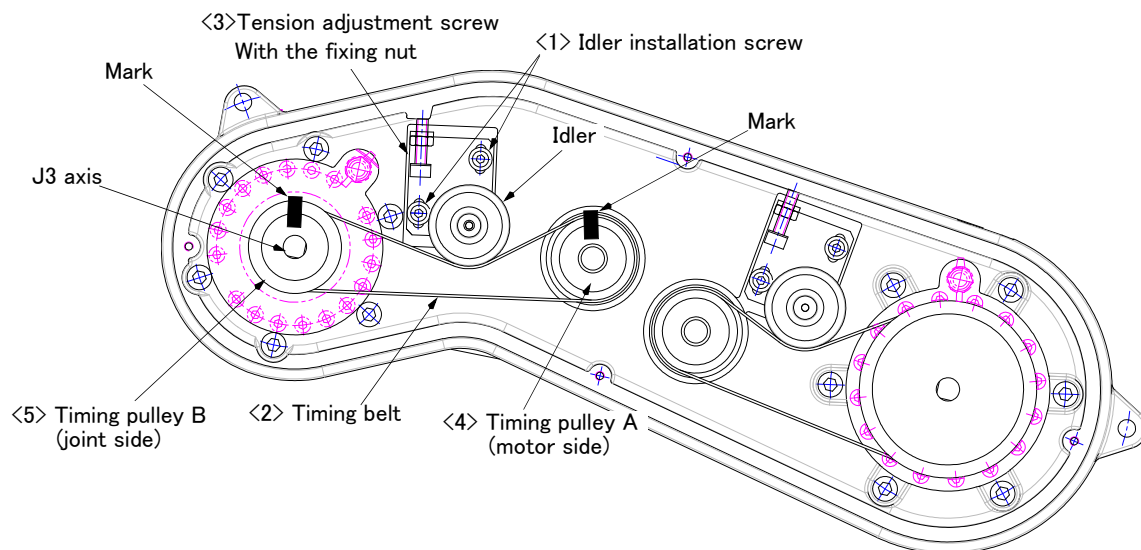

Fig.5-12 : Inspection and replacement of J3 axis timing belt (RV-2FR series)
The reference figure at inspection, and replacement of the timing belt is shown in Fig. 5-12.
- 3) Make marks on the timing belt <2> and timing pulleys <4> and <5> with a felt-tip pen as shown in Fig. 5-12 so that the engagement of the timing belt <2> and timing pulleys <4> and <5> does not deviate.